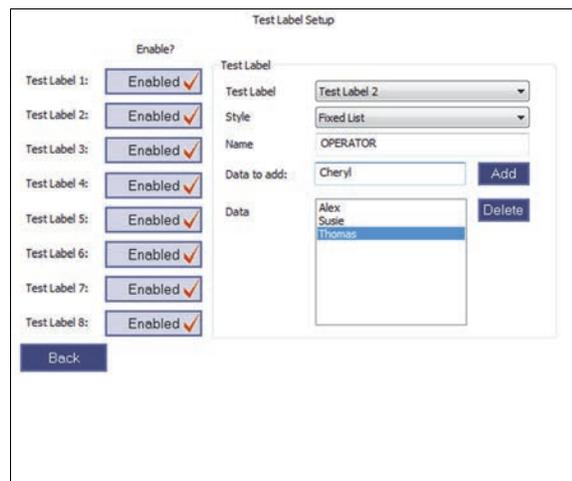

Figure 1-10 The Fixed List style setup
1. Click the **Name** box, and then type text (see Figure 1-10 on page 13).